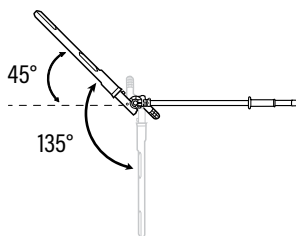

Fig. 5B
NOTE: The trimmer head pivots 135° and can be locked into 10 positions within that range. The angle of the blade can be adjusted upwards to any of 4 positions from 0° (straight) to 45°, and downwards to any of 6 positions from 0° to 90°. (Fig. 5B)
2. Mount the two gaskets, pressing plate, and wool felt into place as shown in Fig. 5B.